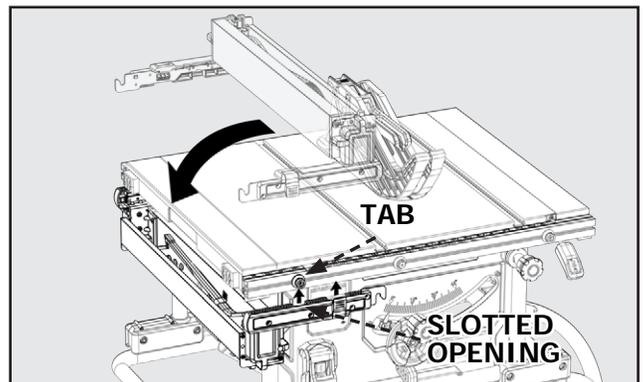

Figure 29
1. remove the Fence from the machine. The Storage orientation will require the Fence to be flipped upside down and re-attached under the Left Side of the machine. The Mounting Tabs on the Table should fit into the slotted openings on the bottom of the Fence Arms. Please see Figures 29 and 30 for proper orientation.